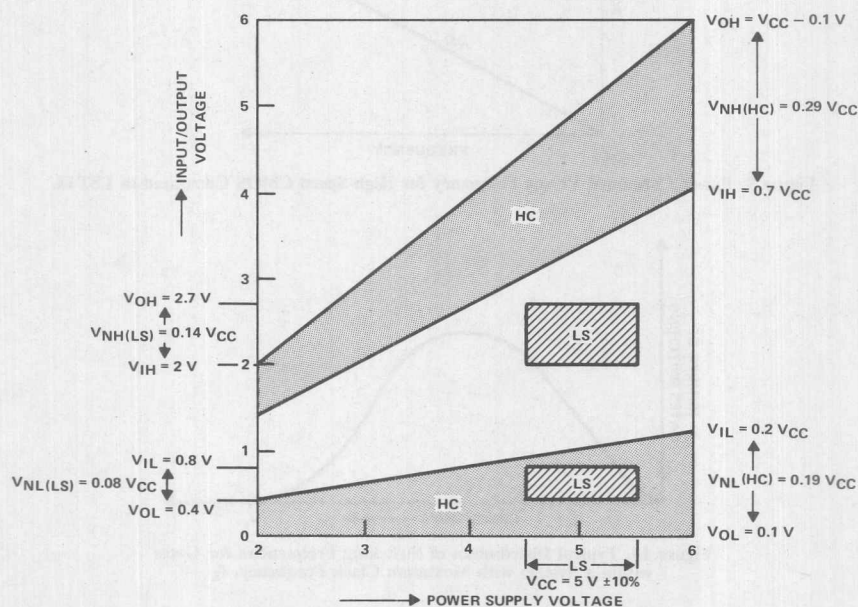

Figure 12. High-Speed CMOS and LS Noise Margins
5. Improved noise immunity over bipolar devices is due to the rail-to-rail ( $V_{CC}$  to ground) output voltage swings. Figure 12 illustrates the noise immunity provided by the high-speed CMOS family as it compares to the LSTTL family. This noise immunity makes it ideal for high-noise environments. Minimum and maximum output voltages are guaranteed at 4 mA (6 mA for high-current devices). If the output currents exceed these limits, the noise immunity will be impaired. 'HCT devices have similar input noise margins to LSTTL because their inputs are TTL-voltage compatible. The outputs of 'HCT are the same as standard 'HC outputs.